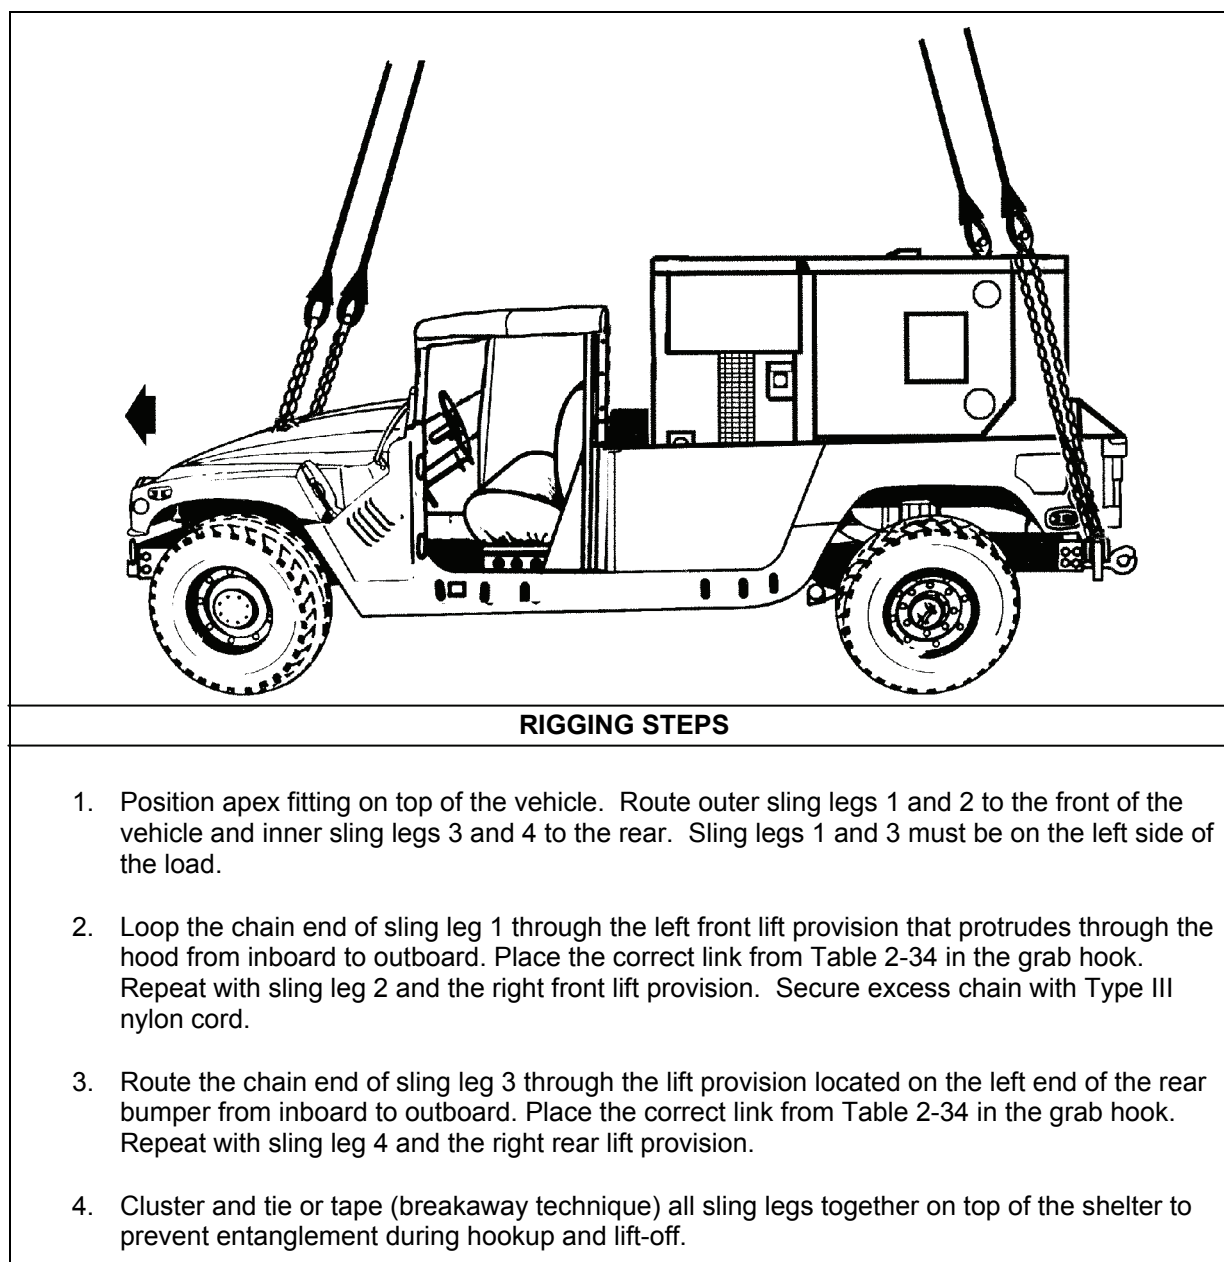

Figure 2-33. M1097 with Sentinel AN/MPQ-64 Tactical Quiet Generator
- **Rigging.** Rig the load according to the steps in Figure 2-33.